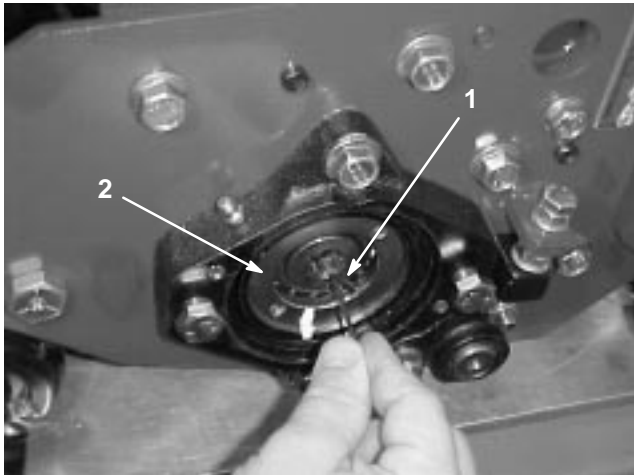

Figure 23
- A. Loosen set screw securing bearing adjusting nut to bearing housing located on the left side of the cutting unit (Fig. 23).